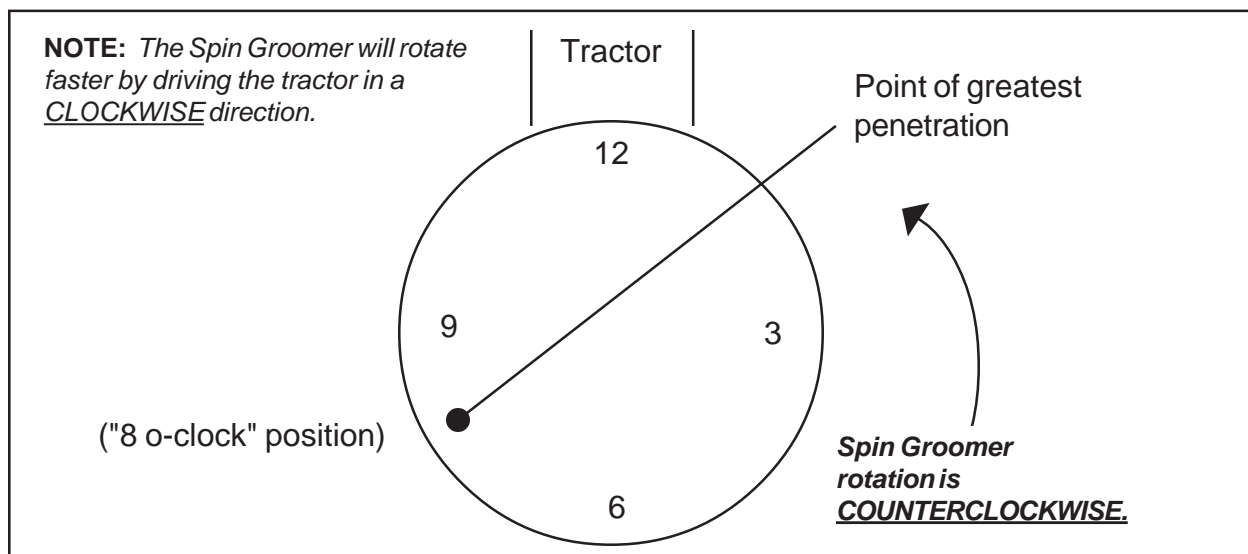

Figure 3A - Adjusting for Point of Greatest Penetration
2. Raise the spin groomer with the tractor three-point hitch so that the front part of the grooming ring is approximately two inches off the ground. (**Refer to Figure 3A**; the front part of the grooming ring is that portion at the "12 o'clock" position.)
6. Now *lengthen the top lift arm* of the tractor three-point hitch so that the **lowest point of the grooming ring is at "8 o'clock"** as shown in Figure 3A. ***This is the recommended point of greatest penetration.***
2. Slowly lower the spin groomer until the grooming ring rests on the ground in the "8 o'clock" position (refer to Figure 3A). As the tractor moves forward and achieves the recommended operating speed (not to exceed 8 mph), the spin groomer will rotate *counterclockwise* and begin loosening and grooming the surface.
1. **To achieve more aggressive grooming (e.g. for hardened, compact surfaces), shorten the lower righthand linkage.** You may also want to shift the point of greatest penetration towards the "9 o'clock" position when grooming very hard, compact surfaces. *Shortening the top lift arm* of the three-point hitch will move the grooming ring's deepest penetration toward the "9 o'clock" position (refer to Figure 3A).